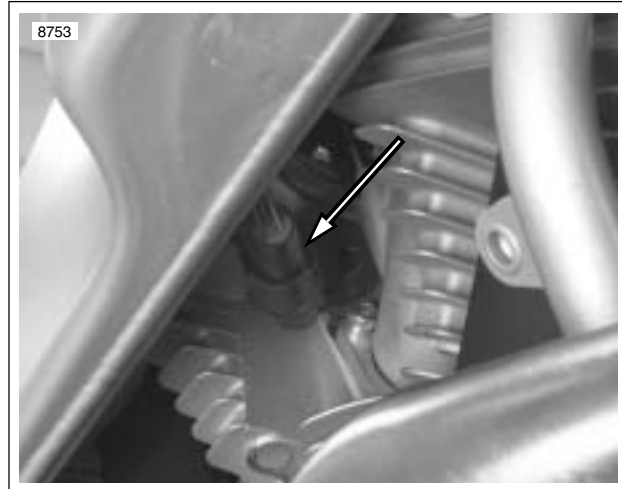

Figure 4-80. Throttle Position Sensor Location
2. See Figure 4-80. Disconnect throttle position sensor connector [88].